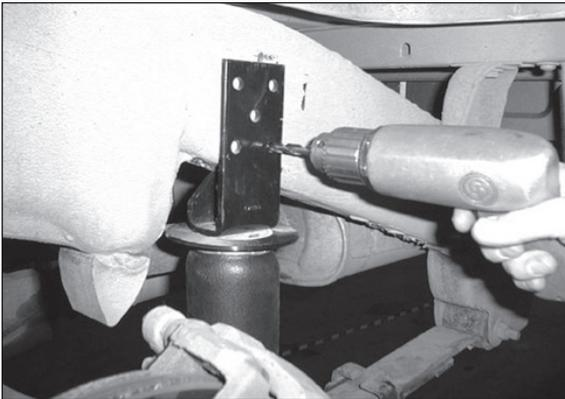

Figure 17
7. Centerpunch and drill remaining two holes and install the WHST (I). Again, torque to 15 ft-lbs. Do not over tighten (Figure 17).